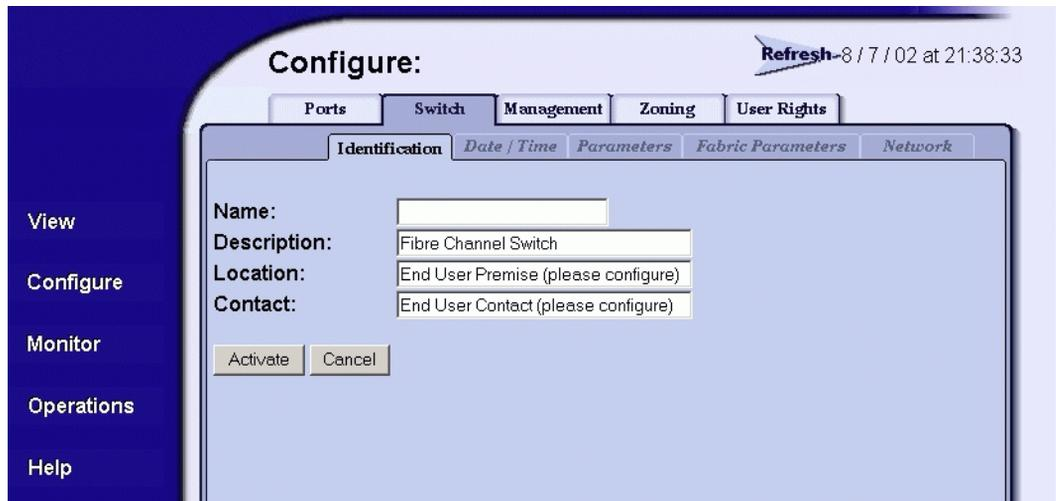

Figure 2–2: Configure product Identification tab view
1. Choose **Configure** from the navigation panel. Choose the **Switch** or **Director** tab, as appropriate. The **Switch** or **Director** tab displays with the **Identification** tab view (Figure 2–2).